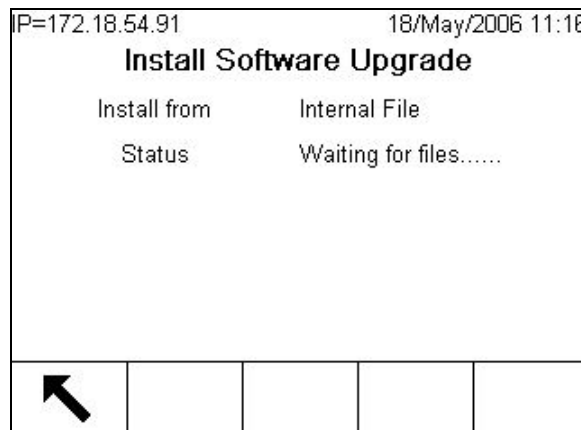

Figure 3-3: Firmware Upgrade – Waiting for Files
7. Press the START softkey  to perform the upgrade. If the files are not present in the Upgrade folder, the screen shown in Figure 3-3 appears. Performing the copy operation from InSite will continue the process. Pressing the EXIT softkey  abandons the process and returns to the setup tree.